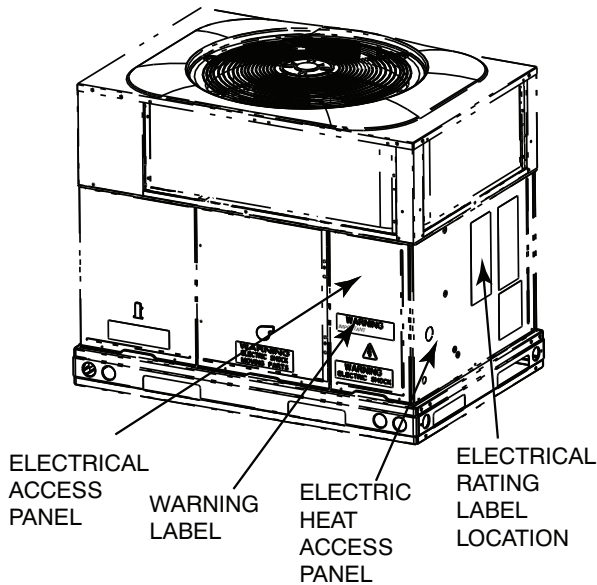
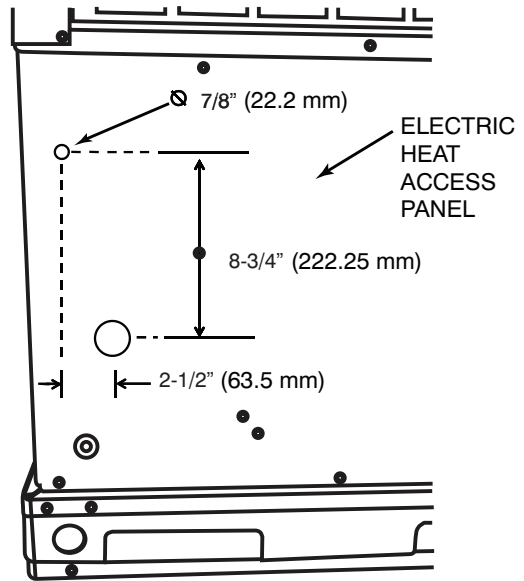

Fig. 1 - Unit Access Panel and Label Location
Fig. 2 - Second Power Line Access Hole Location
4. Remove unit electrical access panel (See Fig. 1).
2. Remove electric access panel (see Fig. 1), check to make sure there is clearance on the inside of control box above the existing high voltage knockout. Using a knockout punch and die combination, make a 7/8-in. hole on the Electrical Heat access panel for second power circuit (see Fig. 2). A knockout punch and die combination or equivalent tool is required to make this hole. Other types of drill bits or standard hole saws are not acceptable.
3. Attach warning and rating labels in the selected location (see Fig. 1).